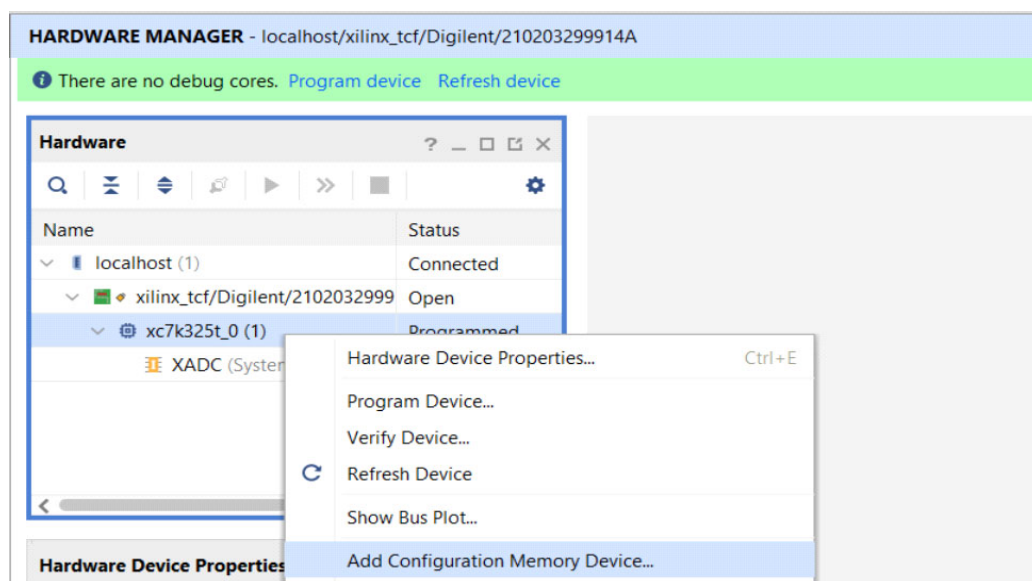

Figure 12: Add Configuration Memory Device
- Launch the Add Configuration Memory Device dialog by right clicking the target FPGA in the hardware manager as shown in Figure 12.